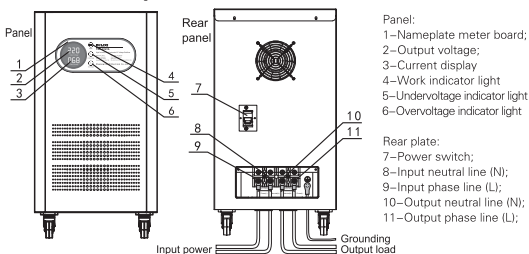

Figure 16 TND-10~30kVA
3.4.4. The outline and wiring of the TND-10~30kVA high-precision fully automatic AC voltage stabilizers are shown in Figure 16.